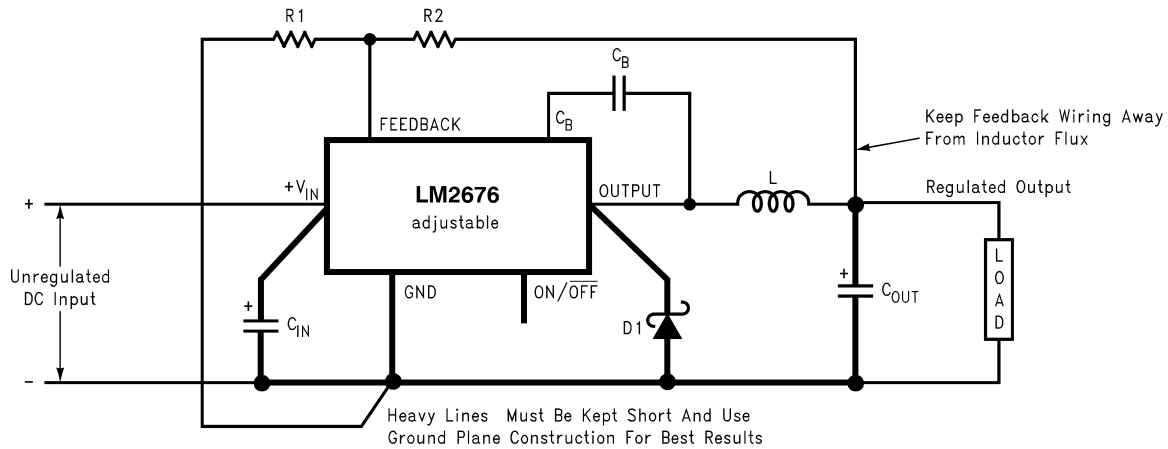

Figure 7-7. Basic Circuit for Adjustable Output Voltage Applications
Step 2: Select an LM2676S-ADJ. To set the output voltage to 14.9 V, two resistors must be chosen (R_1 and R_2 in Figure 7-7). For the adjustable device, the output voltage is set by the following relationship: